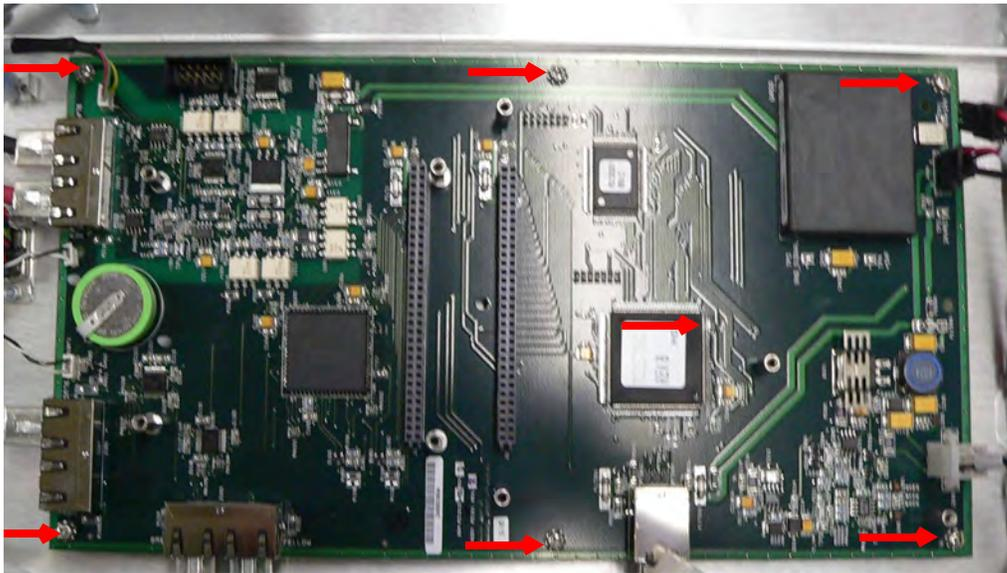

Figure B-37 Mother Board Mounting Screws
8. Remove the six (6) Philips screws holding the board (Figure B-37).